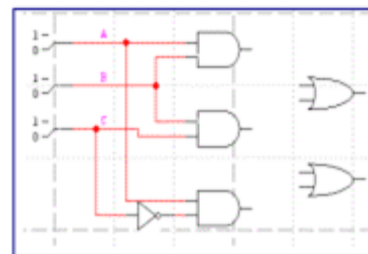

Figure 10-10
- Connect the output of this inverter to one of the inputs of the last AND gate and connect the other AND gate input to switch A. Your design should now resemble the schematic in Figure 10-10.